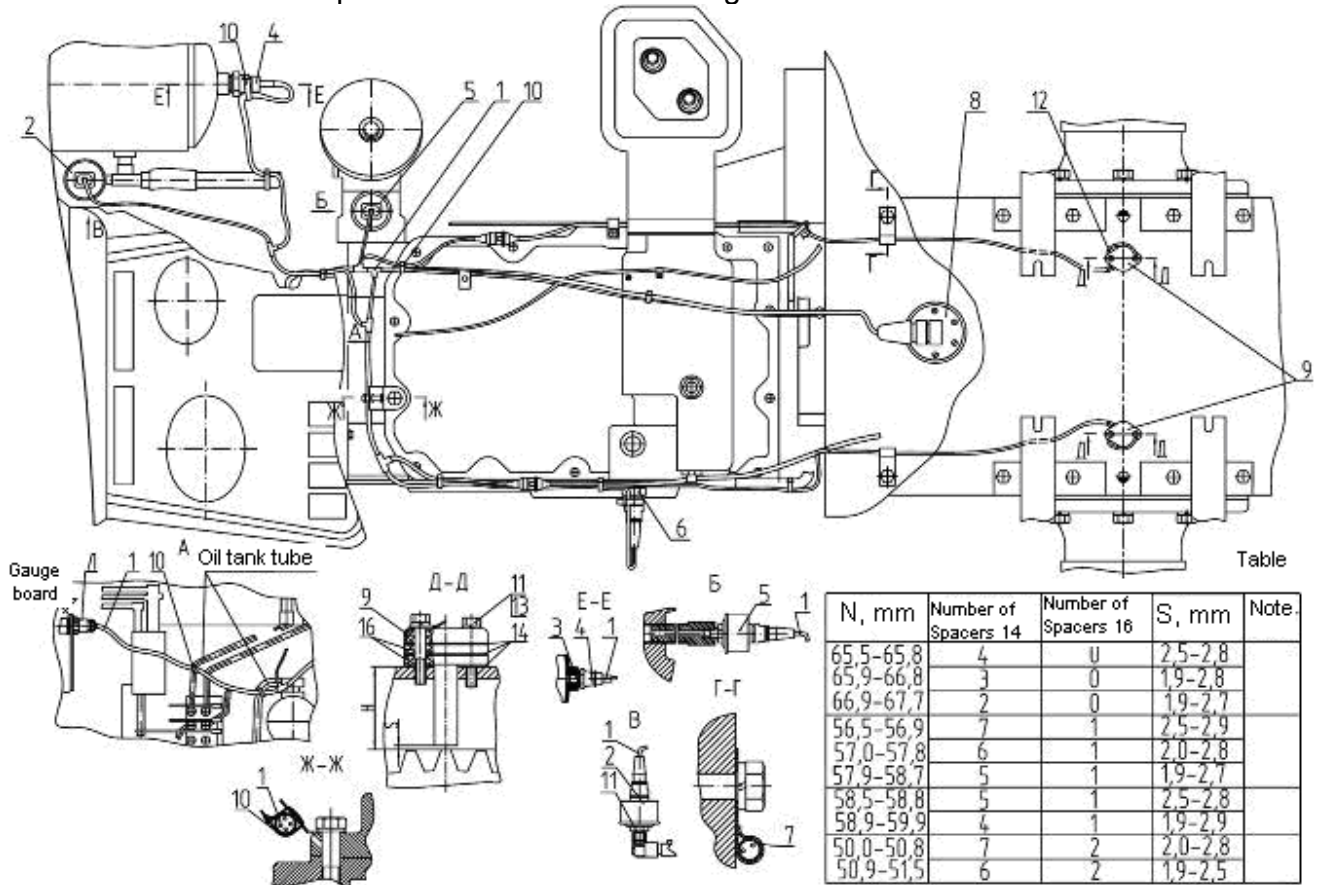
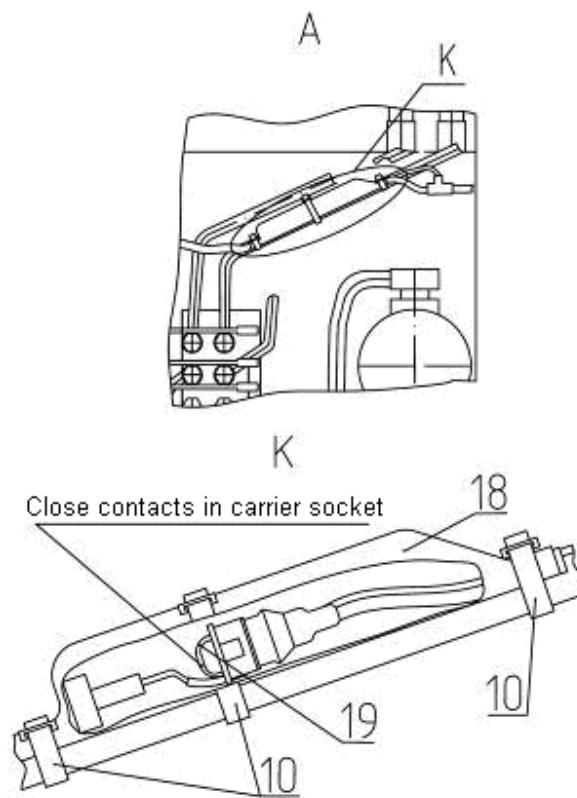

Figure 11.6 Transmission electrical equipment of tractors BELARUS-1221.2/1221B.2/1221.3
Figure 11.7 When tractor is not equipped with pneumatic system.
- a) disconnect connector "L" of harness 1 (Figure 11.6) from connector of dashboard, situated on front cabin wall;
- b) dismantle harness 1 (Figure 11.6), and disconnect its carrier sockets from:
- 6.1) sensor of fuel level 8 (Figure 11.6) mounted on tractors BELARUS-1221.2/1221.3;
Dismounting of air pressure sensor 2 (Figure 11.6):
- a) disconnect coupling carrier socket of harness 1 (Figure 11.6 view “B”);
Dismounting of sensor of emergency air pressure 4 (Figure 11.6):
- a) disconnect coupling carrier socket of harness 1 (Figure 11.6 “E-E”);
Where pneumatic system is not installed on tractor, tie outlets of air pressure sensor 2 (Figure 11.6) and sensor of emergency air pressure in knot, place in PVC pipe 8 (Figure 11.7) and fasten with collars 10, having first put a jump in two-terminal carrier socket 19.
Dismounting of oil pressure sensor 5 (Figure 11.6) in GB:
Dismounting of speed sensors: 9 (Figure 11.6):
c) disconnect fastening bolts 11 (Figure 11.6 “Д-Д”) with washers 13;